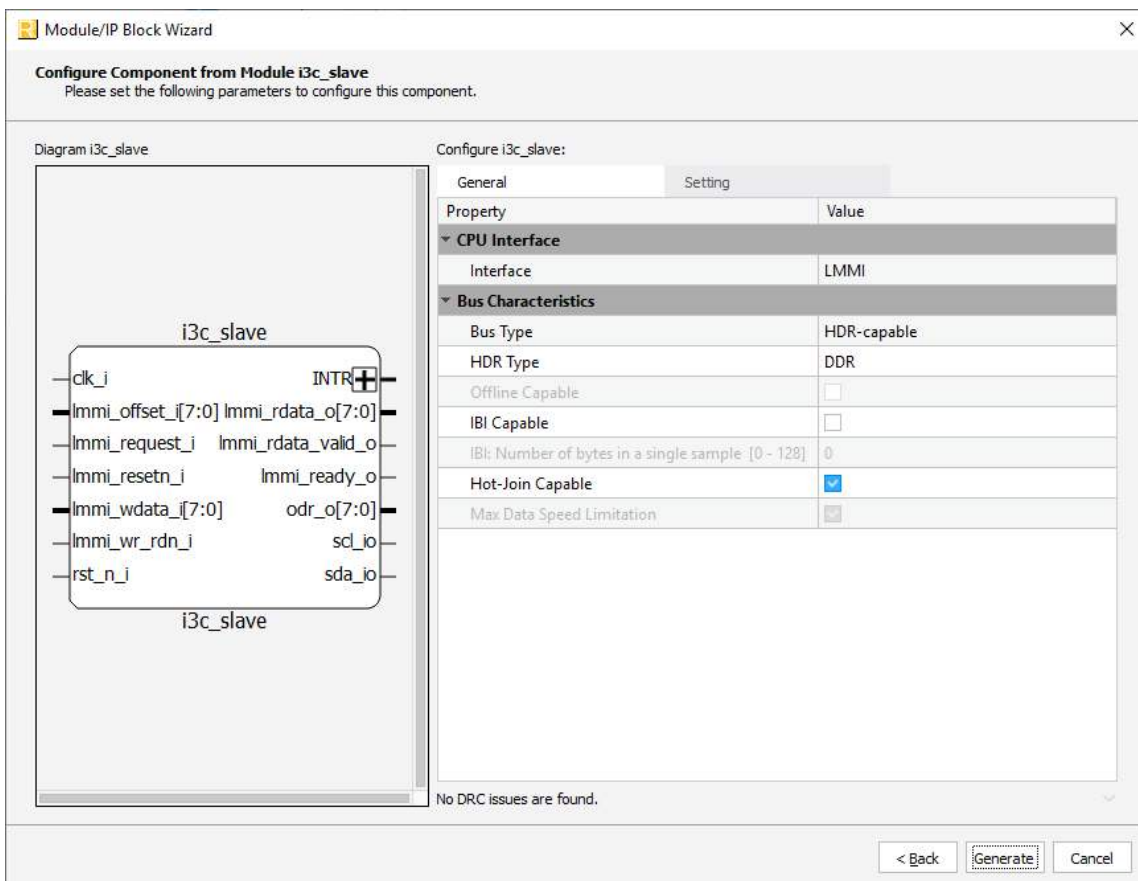

Figure 3.1. Configure Block of I3C Slave Module
2. In the dialog box, configure the I3C Slave module according to custom specifications, using drop-down menus and check boxes. As a sample configuration, see Figure 3.1. For configuration options, see Table 2.4